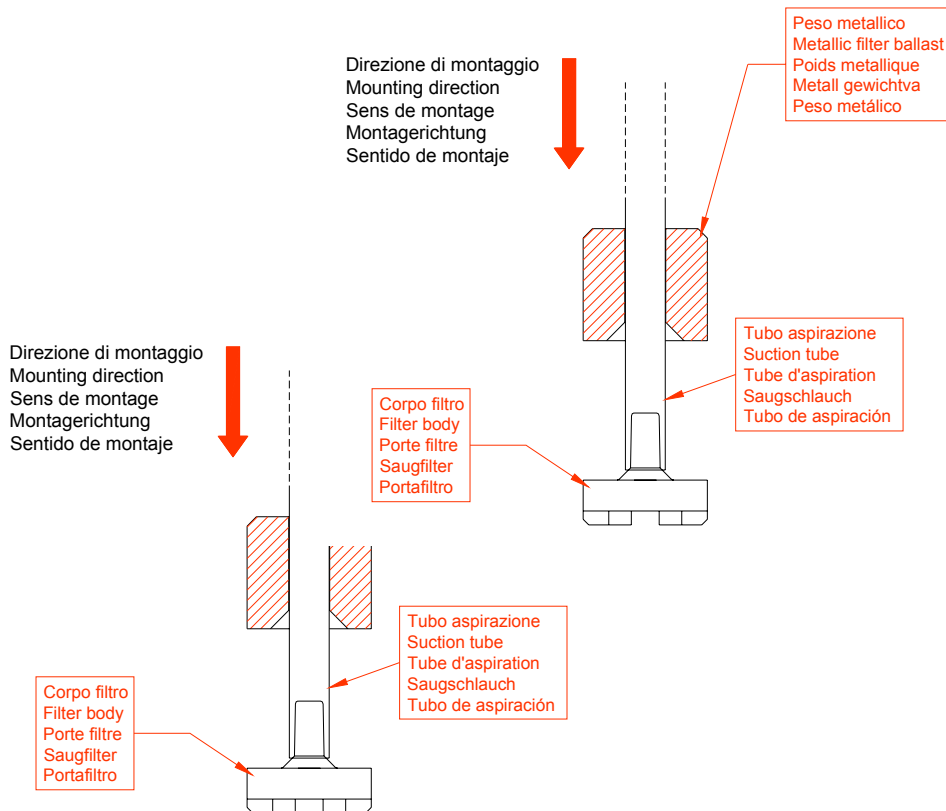

Fig. 4
- Fig. 4 shows the assembly sequence for the components of the suction filter.